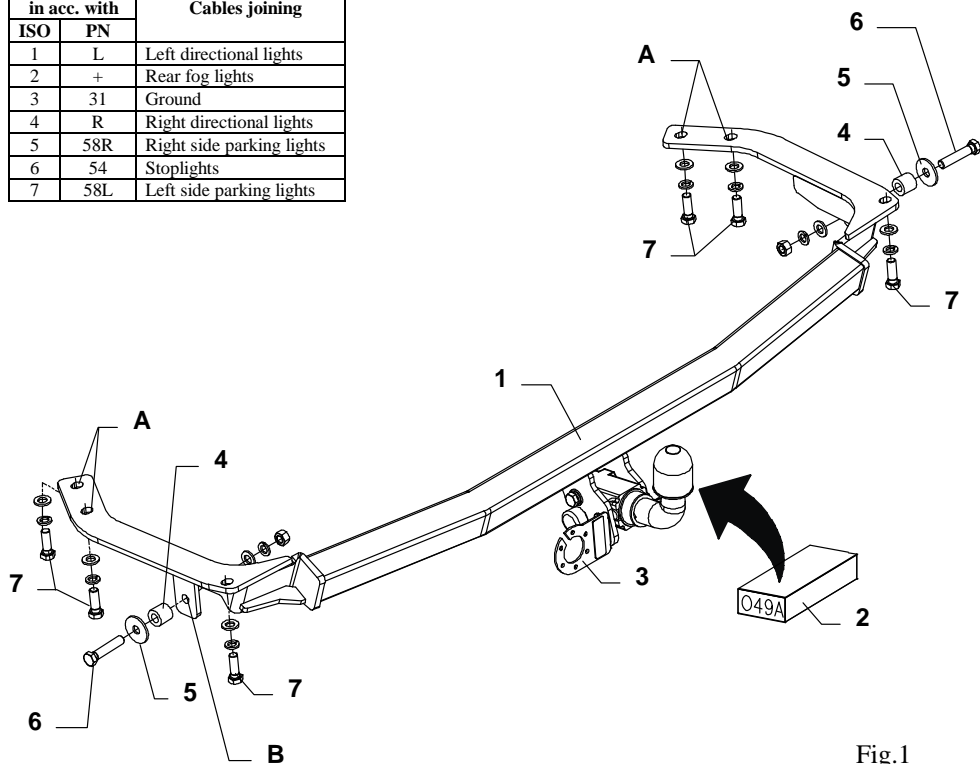

Fig.1
3. Apply the main bar of the towbar (pos. 1) to the automobile frame, that way so holes of the towbar (pos. A) be covered with factory-made threaded holes. Fix using bolts M12x1,25x35mm (pos. 7).
4. Through holes (pos. B) fix with factory-made holes. Use distance sleeves $\phi 25 \times \phi 13 \text{mm}$, L=23mm (pos. 4), washers $\phi 37 \times \phi 13 \times 3 \text{mm}$ (pos. 5) and bolts M12x60mm (pos. 6) as showed on the fig. 1.